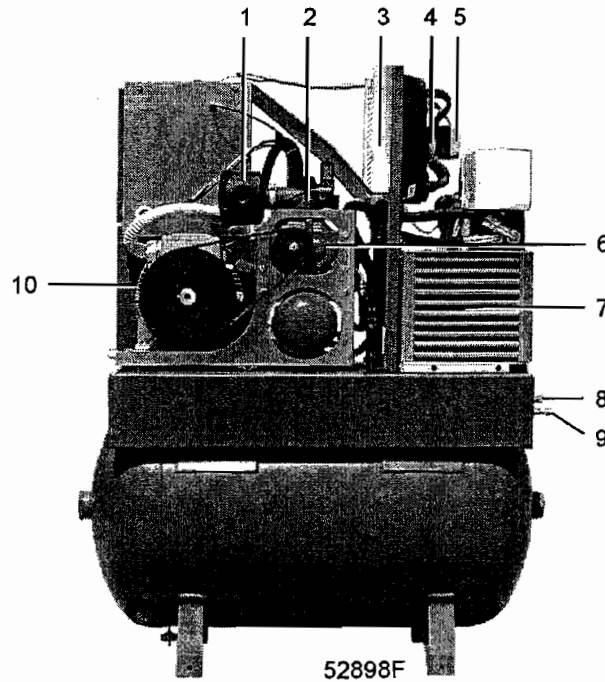

Fig. 1.5 Rear view GX11 FF tank-mounted
An air cooler (6) and an air dryer (15) are integrated in the bodywork. A condensate drain system is provided including a valve for automatic draining during operation (8-Figs. 1.5 and 1.6) and a manual drain valve (9).
Figs. 1.5 and 1.6 Rear views